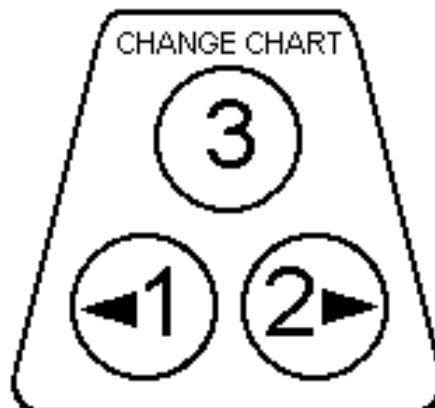

Figure 3.2
Press and release the CHANGE CHART key (3 on Figure 3.2). Wait until pen(s) moves off scale and LED status changes from flashing to steady. Press and release the CHANGE CHART (3) again, the pen will begin to move back onto the chart briefly stopping at (or close to) the outermost graduation of the chart. Green LED remains on steady during this time.